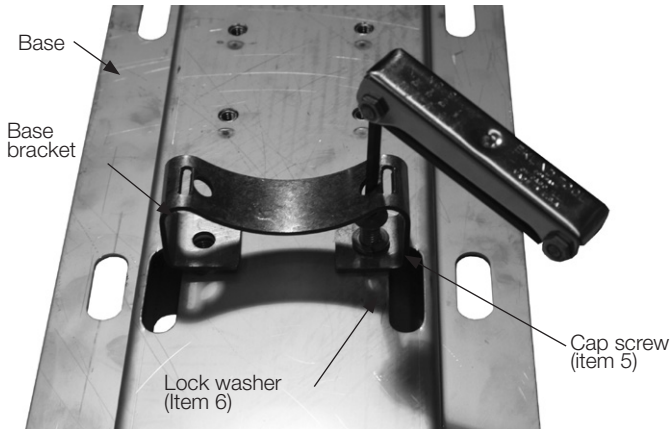

Figure 6. Installing base bracket (top-hat channel base shown)
2. Attach the base bracket (Item 3) to the base (Item 1 or 2) with a hex-head wrench using 3/8-16 X 1" cap screws and 3/8" lock washers (Items 5 and 6). See Figure 6.